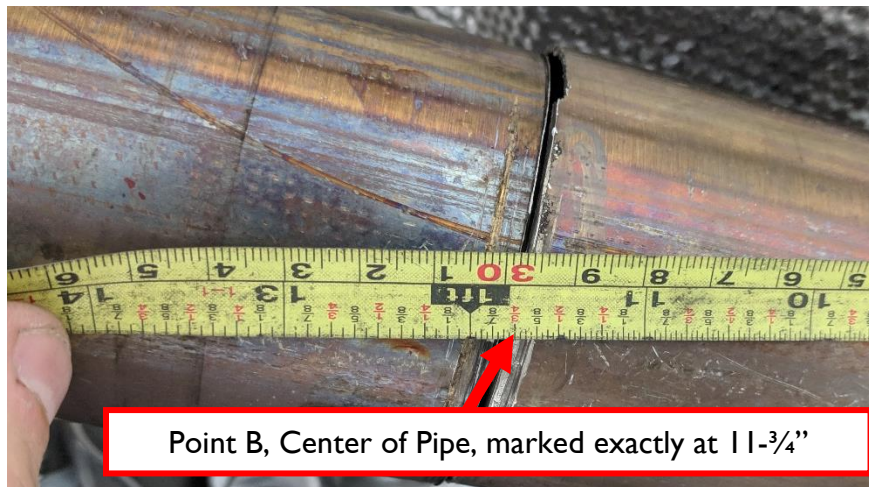

Figure 4
2.2 The center of the pipe on Point B should resemble Figure 4 as shown below, with the tape measure marking the point at exactly $11\text{-}\frac{3}{4}$ ".